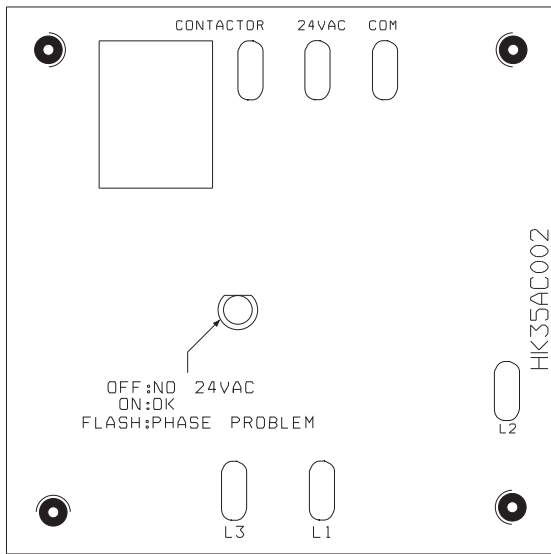

Fig. 9 – 3-Phase Monitor Control
The Three-Phase Monitor Control (see Fig. 9) is **not** compatible with three-phase corner grounded delta power supply. To troubleshoot if there is a corner grounded delta power supply, use a voltmeter as follows:
The defrost thermostat is factory installed on a short tube stub extending from the coil end plate. Refer to Fig. 9 and confirm that the thermostat is securely fastened in place on the tube stub.
To initiate a forced defrost cycle (test cycle), the defrost thermostat (Figure 9) must be closed.
- For units with PSC motors, disconnect outdoor fan-motor lead from the OF2 terminal on control board; For units with ECM motors, disconnect outdoor fan-motor lead from the ODF terminal. (Fig. 9). Tape lead to prevent grounding.
- Turn off power to unit. Replace outdoor fan-motor lead to either OF2 or ODF terminal on control board, depending on type of motor (Figure 9). Restart the unit in heating mode.